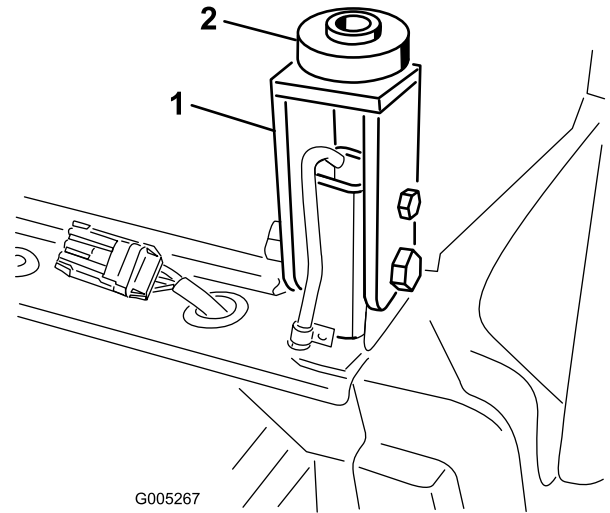

Figure 115
24. Insert a rubber mount onto each cab mount at the rear mounting locations (Figure 115).